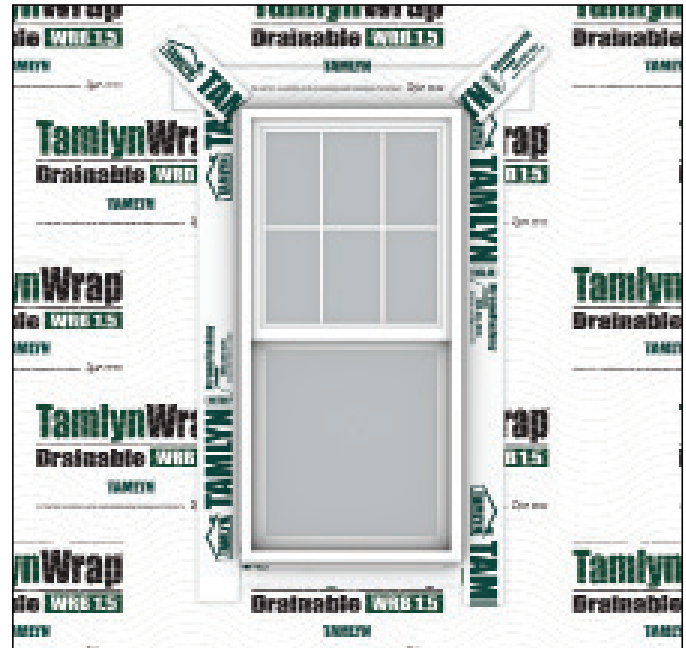

FIG 11:
- Tape corners using **XtremeFlashing™** as shown in **(FIG 11)**.